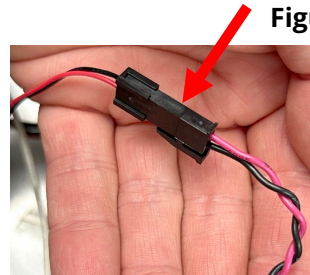

Figure 20
21. Connect the 2-wire red and black speaker wire (see Figure 20).